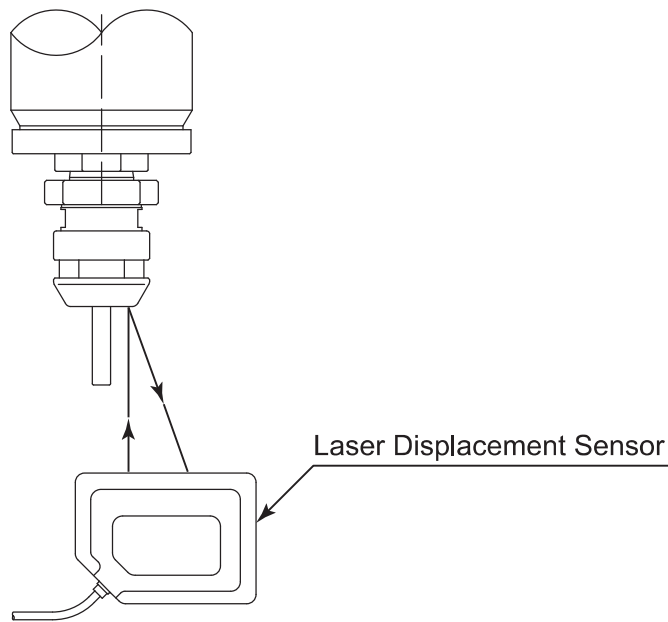

Fig. 14
- * After installing the Collet Holder to the Spindle, the Collet Holder alignment can be checked utilizing a Laser Displacement Sensor as illustrated in Fig. 14.